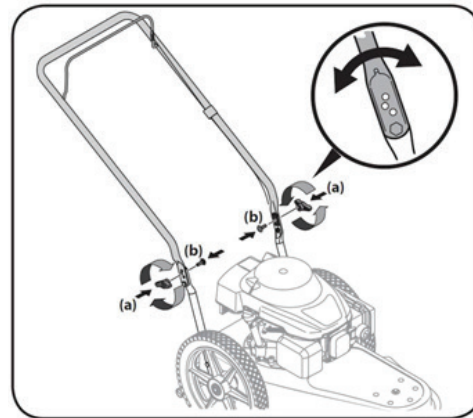

Figure 2-2
3. Move the upper handle into one of three positions by pivoting it forward or rearward. Secure the upper handle to the lower handle using the wing knobs (a) and carriage bolts (b) removed in Step 1. See Figure 2-2.